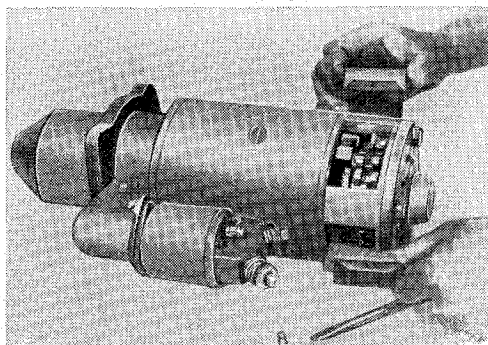

Fig. 85.
4. After having screwed out the bolt securing the commutator end plate remove both the end plate and the cover band (see Fig. 85).